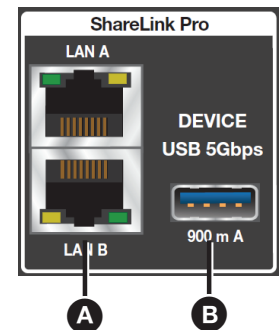

Figure 13. ShareLink Pro Connections
- The models with ShareLink Pro have two additional LAN ports and a USB 5 Gbps port (see figure 13 on page 20 for details on the ShareLink Pro ports).